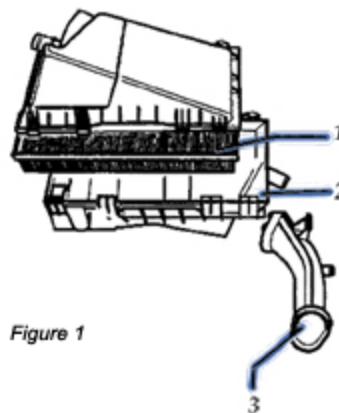

Figure 1
12. Check the snow screen (located below the left front fender in the air duct; see 3, Figure 1) and clean as necessary.
13. Inspect the air cleaner element (see 1, Figure 1) for proper installation. If the air cleaner element is deformed due to improper installation, this may cause the MAF sensor to fail.